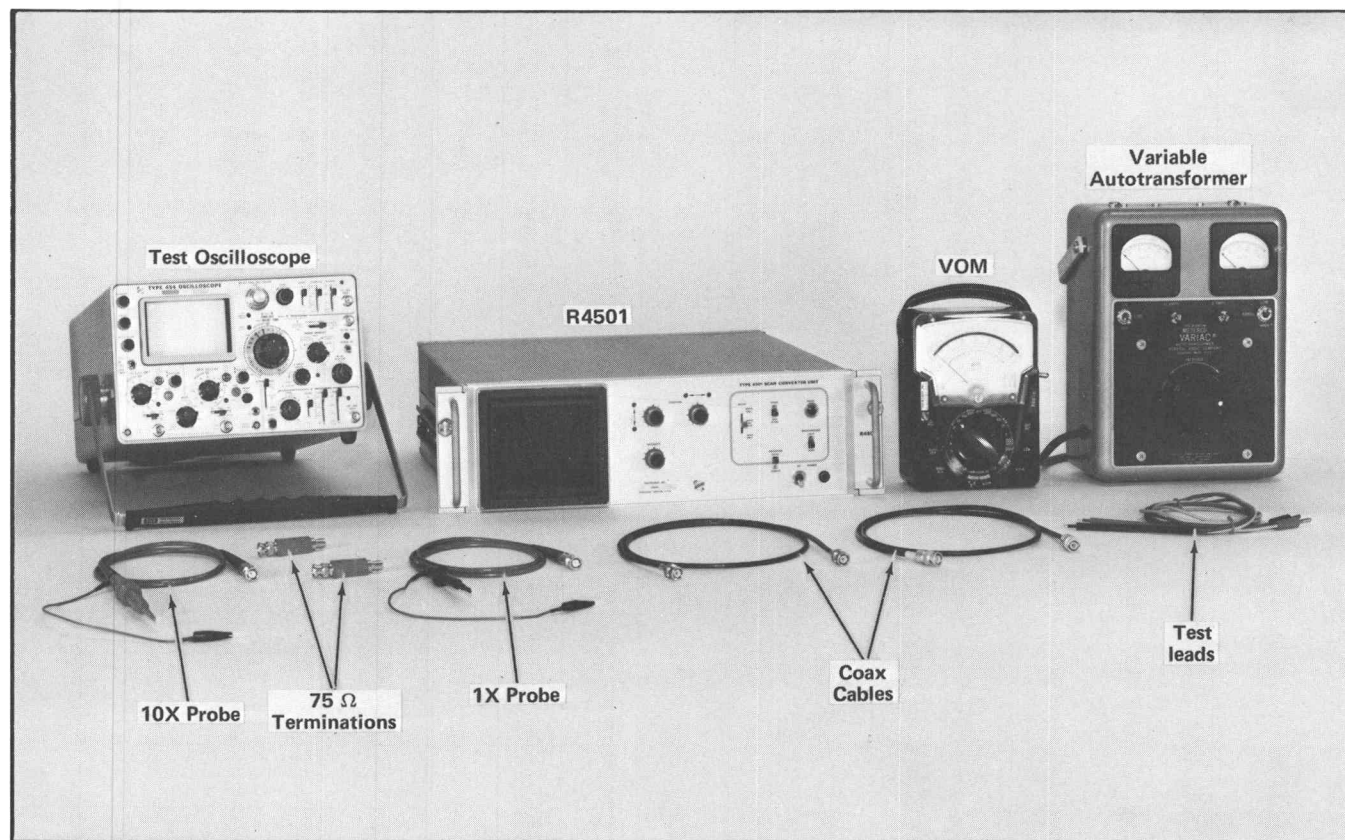

Fig. 5-1. Test equipment required for Step 1 through 6.
a. Test equipment required for steps 1 through 5 is as shown in Fig. 5-1.